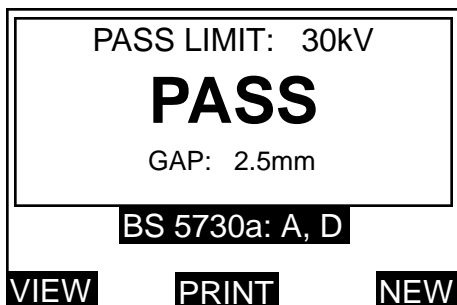
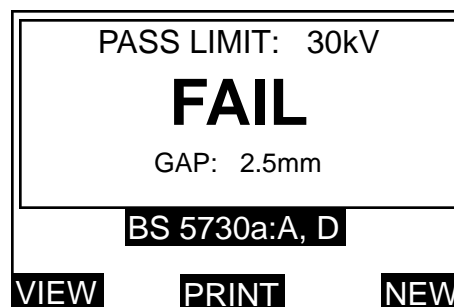

Figure 21a. BS5730a PASS display screens.
Figure 21b.
- The sequence of events now depends on the results of the first test. If the test was successful no further testing takes place. The display appears similar to figure 21a.
- The second application of the withstand voltage will automatically occur next, with the sequence repeating step (6) above. The display will indicate the actual test number in progress.
- The sequence of events now depends on the result of the second test. If the second test is unsuccessful, no further testing takes place. The display appears similar to figure 21b.
- A third application of the withstand voltage will occur next, with the sequence repeating step (9) above. The display indicates the actual test number in progress.
- If the third test was successful, the display will appear similar to figure 21a. An unsuccessful third test will prompt a display similar to figure 21b, and no further testing takes place.